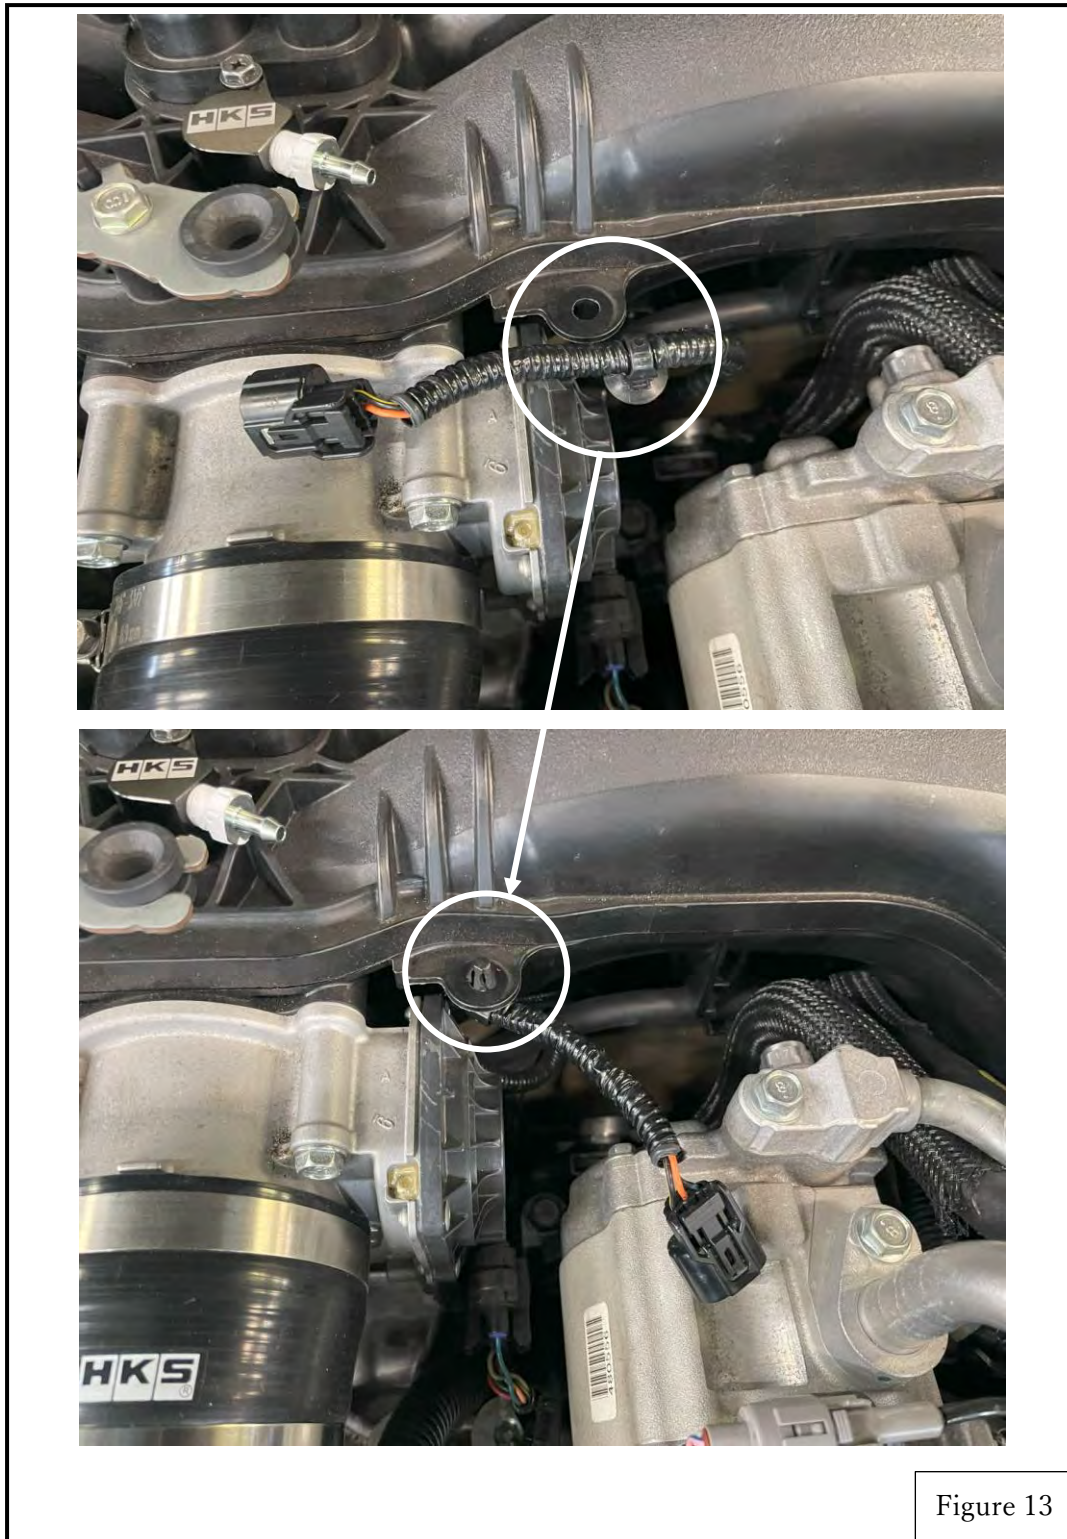

Figure 13
- (9) Secure the Harness clip that was connected to the Air pressure sensor from the back. (Figure 13)